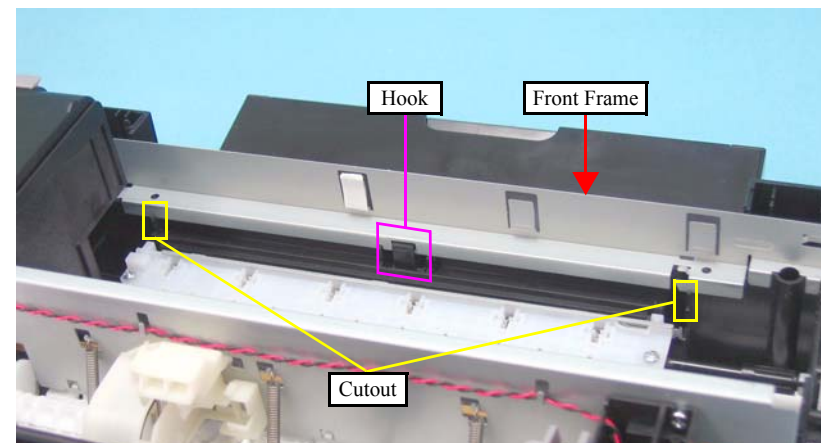

Figure 4-62. Removing the Front Frame/Right Frame (4)
- As shown in Figure 4-62, be sure to secure the Front Frame with the hook (x1) and the cutouts (x2).